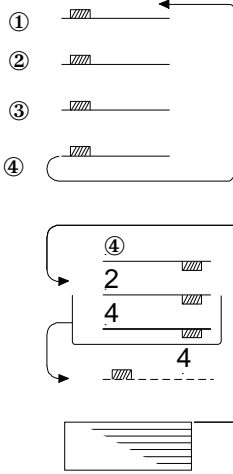

Fig 2
- 2) The 4th original is scanned. The copy is stacked in the duplex tray. Soon after this, the bottom copy in the duplex tray is fed until its leading edge reaches the duplex exit sensor. This is in preparation for the reverse side copying [Fig 2].